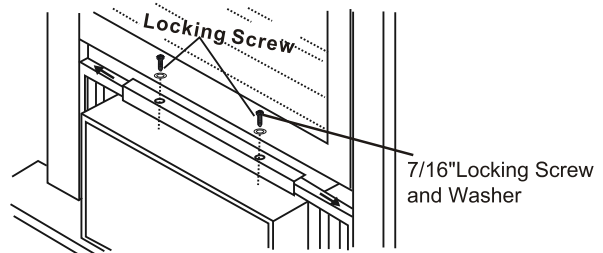

Fig.17
2. Extend panels to fill window opening completely. Tighten locking screws on top(Fig.17).